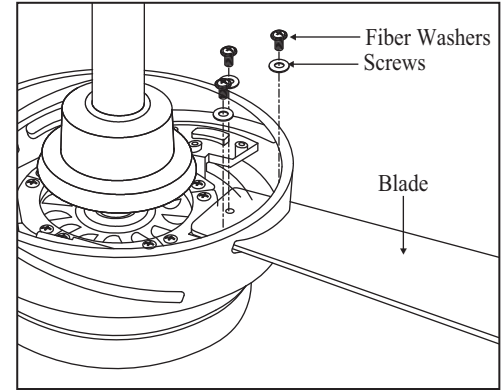

Figure 8
2. Align the holes from the blade to the holes from the motor and secure in place with screws and fiber washers provided. (Fig. 8)